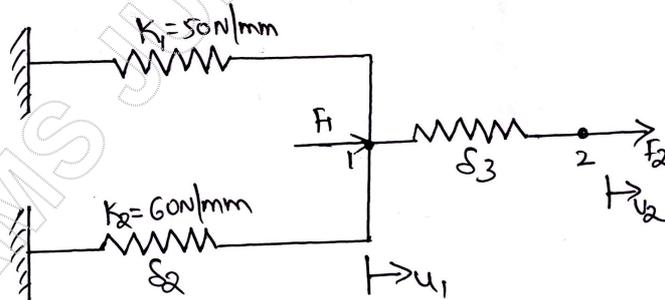

Fig.Q3(a)
- 4 a. For the spring shown in Fig.Q3(a) using the principle of minimum potential energy, determine the nodal displacement. Take  $F_1 = 75\text{N}$  and  $F_2 = 100\text{N}$ .